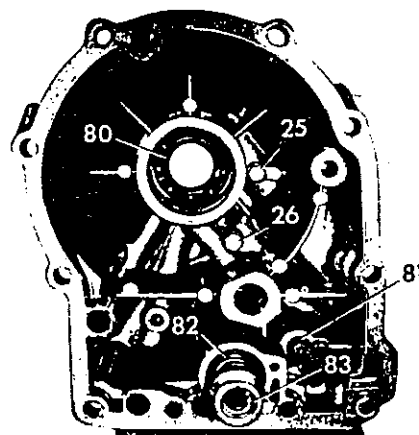

Fig. 39
19 Press in ball bearing (80) and insert lock ring. Press in seal ring, install secondary pump and speedometer drive with attachment bolts (25 and 26) **Fig. 39**